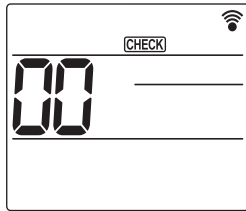

Fig. 7-9
- ① Turn on the power to the unit at least 12 hours before the test run.
- ② Press the **MENU** button for 5 seconds. (Fig. 7-9)